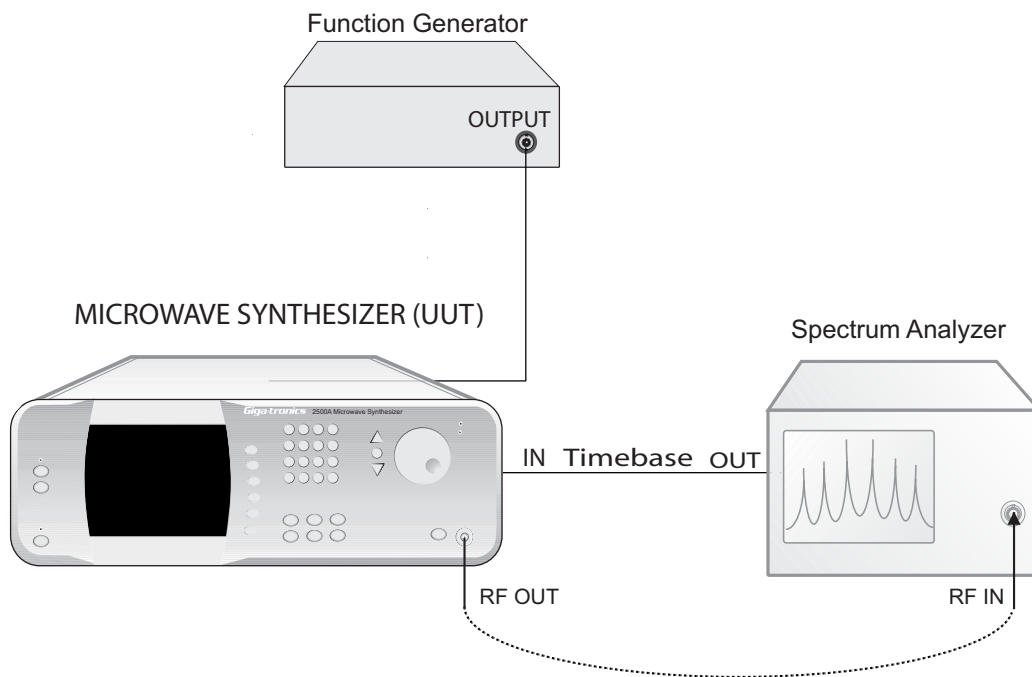

Figure 4-6: FM Deviation Bandwidth and Accuracy Setup
1. Connect the test equipment and UUT as shown in Figure 4-6.
- Connect the test equipment and UUT as shown in Figure 4-6.